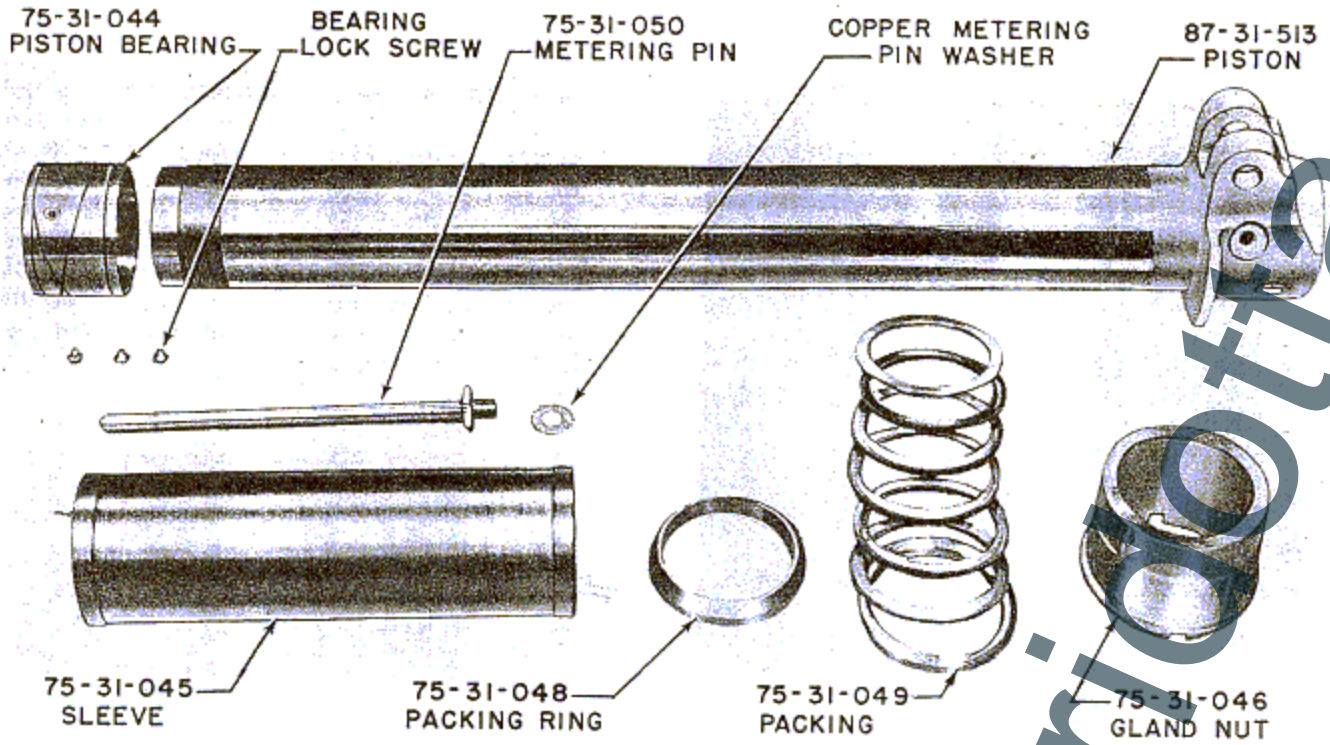

Figure 122—Oleo Strut Piston Disassembled
14. Use a spanner wrench and turn the piston bearing off the piston. The sleeve, packing ring, packing and gland nut can now be slid off the piston. The piston is now completely disassembled as illustrated in figure 122.